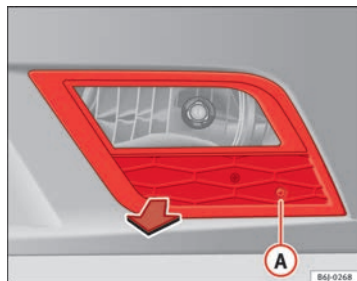

Fig. 166 Fog light
- Remove the bolt ⇒ Fig. 166 **A** from the fog light grille with a screwdriver.